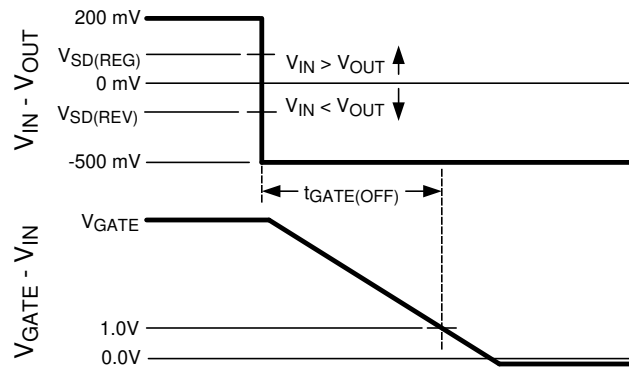

Figure 1. Gate OFF Timing for Forward to Reverse Transition
(2) Time from  $V_{IN} - V_{OUT}$  voltage transition from 200 mV to -500 mV until GATE pin voltage falls to  $V_{IN} + 1\text{ V}$ . See Figure 1.